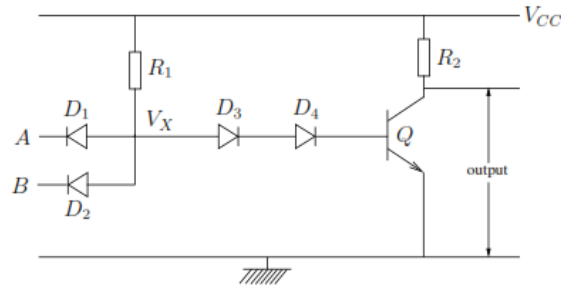
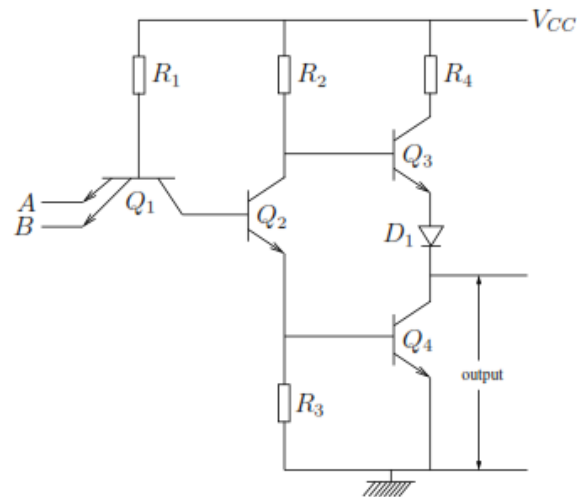

Figure 1.6: DTL NAND gate
Figure 1.7: TTL NAND gate
Figure 1.6 shows a Diode-Transistor Logic (DTL) NAND gate. Note that although this type of NAND gate is no longer manufactured, the understanding of how it works will assist in understanding the operation of TTL gates that we shall come across later.
Fig. 1.6 shows a TTL NAND gate. Q_1 is a multi-emitter transistor. The transistor is equivalent to the circuit shown in Fig. 1.7. (Note that the gate shown in Figure 1.7 is a 2-input NAND gate. A 3-input NAND gate would have a multi-emitter transistor with 3 emitters etc.)
The output stage of the NAND gate described above is called a totem-pole output. It is illustrated in Fig. 1.15. All TTL gates have this type of output stage. Note that the NAND gate circuit shown in Fig. 1.6 would still operate as a NAND gate even if D1 and Q3 were removed (and R4 connected directly to Q4). However, removing D1 and Q4 is not desirable as R4 is usually a small resistor (about 100) so a large current would flow through Q4 when it is in saturation mode. When Q3 is in the circuit, and Q4 is in saturation mode, Q3 is in cut-off mode hence there will be no current through R4, and this keeps the power dissipation of the circuit low. Note also that the transistors Q3 and Q4 operate such that when Q4 is saturated, Q3 is cut-off, and when Q4 is cut-off, Q3 is saturated. 17 Figure 1.15: Totem pole output Totem pole outputs should not be connected directly together (connecting two outputs directly together is known as a wired-AND operation). Consider the case shown in Fig. 1.16 where two totem-pole outputs are connected together directly. Figure 1.16: Wired-AND connection No particular problems arise if both inputs are HIGH or are both LOW. A problem arises if one input is HIGH and the other one LOW. In the case shown in Fig. 1.16, it is assumed that the output of gate A is HIGH while that of gate B is LOW. A large current flows in the direction shown by the arrow. This current is usually
- a. 74XX e.g. 7400, 7432 e.t.c.-This is the standard TTL. In this case (Fig. 1.6, $R_1 = 4K$; $R_2 = 1K$; $R_3 = 1K$ and $R_4 = 130$.